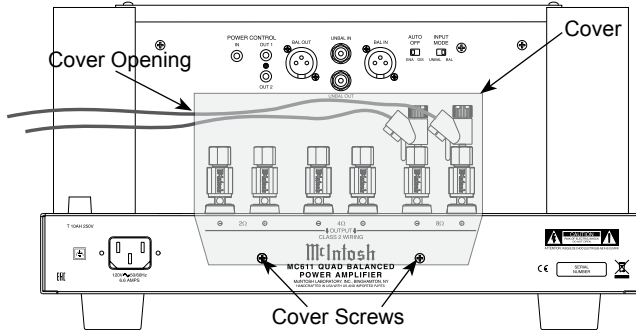

Figure 5 (Inside USA and Canada)
7. Locate the Terminal Connections Cover from the inside of the MC611 shipping carton. Insert the just prepared Loudspeaker hookup cables thru the cover opening on the right side. Refer to figure 5.
*Note: The illustration in figure 5 is connections for 8Ω (ohms) Loudspeakers.*
11. Attach the Terminal Connections Cover to the MC611 Rear Panel with the previously removed Screws. Refer to figure 5.